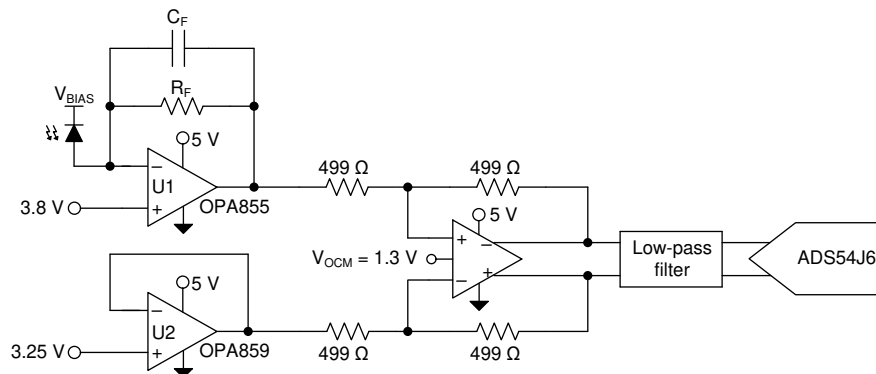
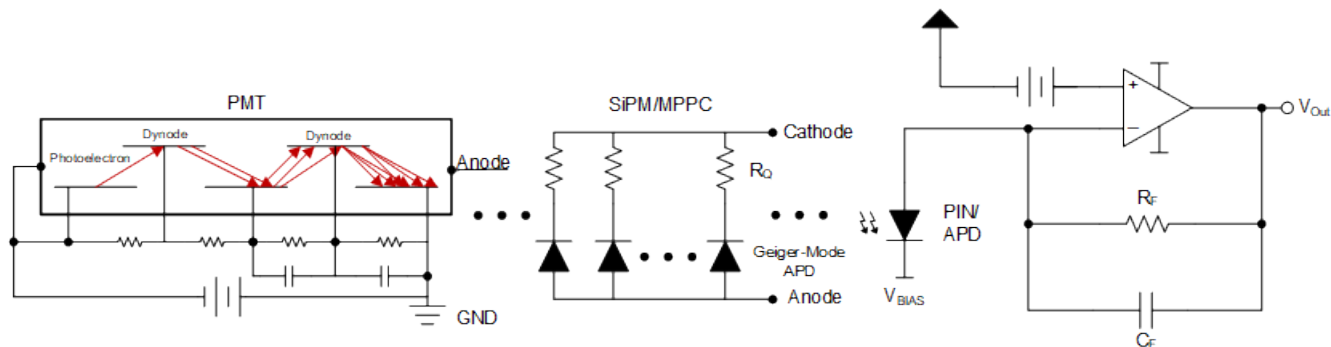

図 10-1. OPA855-Q1 as a TIA in an Optical Front-End System
Figure 10-5. Transimpedance Amplifier with APD or SiPM/MPPC or PMT Inputs
図 10-1 shows the OPA855-Q1 configured as a transimpedance amplifier (U1) in a wide-bandwidth, optical front-end system. A second amplifier, the OPA859-Q1, configured as a unity-gain buffer (U2) sets a dc offset voltage to the THS4520. The THS4520 is used to convert the single-ended transimpedance output of the OPA855-Q1 into a differential output signal. The THS4520 drives the input of the ADS54J64, 14-bit, 1-GSPS analog-to-digital converter (ADC) that digitizes the analog signal.
Figure 10-1 shows the OPA855-Q1 configured as a TIA, with the avalanche photodiode (APD) reverse biased so that the APD cathode is tied to a large positive bias voltage. In this configuration, the APD sources current into the op amp feedback loop so that the output swings in a negative direction relative to the input common-mode voltage. To maximize the output swing in the negative direction, the OPA855-Q1 common-mode voltage is set close to the positive limit; only 1.2 V from the positive supply rail. The feedback resistance (R_F) and the input capacitance (C_{IN}) form a zero in the noise gain that results in instability if left unchecked. To counteract the effect of the zero, a pole is inserted into the noise gain transfer function by adding the feedback capacitor (C_F).
OPA855 offers 8 GHz of gain bandwidth, high slew-rate, and low noise which makes this device suitable for a wide range of photodetectors. Figure 10-5 shows the OPA855 configured as a transimpedance amplifier (TIA) in a wide-bandwidth, optical front-end system. Various types of optical sensors can be used as an optical input to the amplifier: photodiode (PD), avalanche photodiode (APD), Photomultiplier Tube (PMT), and Multi-Pixel Photon Counter (MPPC) or known as Solid-State Photomultiplier (SiPM). Optical detection applications have commonly used APDs, but ultra-low light source detection has been a challenge in past solutions. With technologies such as PMTs and MPPCs, their high intrinsic gain, while maintaining a fast output, requires a low noise, high-speed interface. The OPA855 can accommodate for these optical challenges and would work equally as well in these applications.
The DC voltage bias at the non-inverting input of the OPA855 shown in Figure 10-5 will set the common-mode voltage which will maximize the output swing of the system in mismatched power supply configurations. The DC bias is critical to avoid clipping or saturating the output stage of the amplifier. For the later stages, a fully differential amplifier (FDA) can be used to convert single-ended signal to a differential input to drive an analog-to-digital converter (ADC) as shown in Figure 10-1. Higher order filters can be added between the FDA and ADC for system noise reduction.